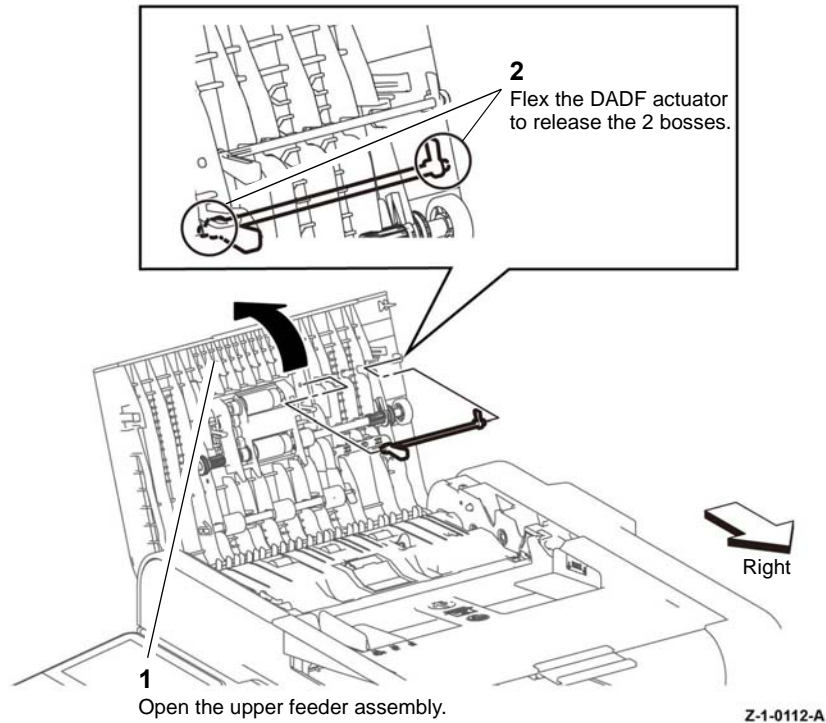

Figure 1 DADF actuator
2. Remove the DADF actuator, Figure 1.